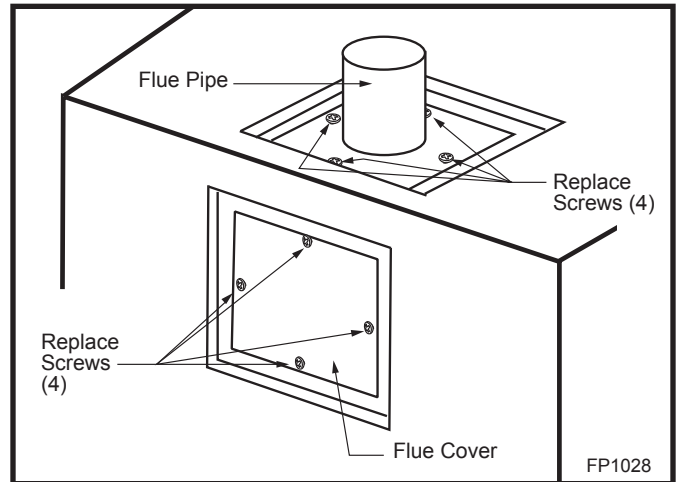

**Fig. 10** Remove screws from outer collar adapter.
1. Remove the 10 screws securing outer collar adapter to fireplace. (Fig. 10)